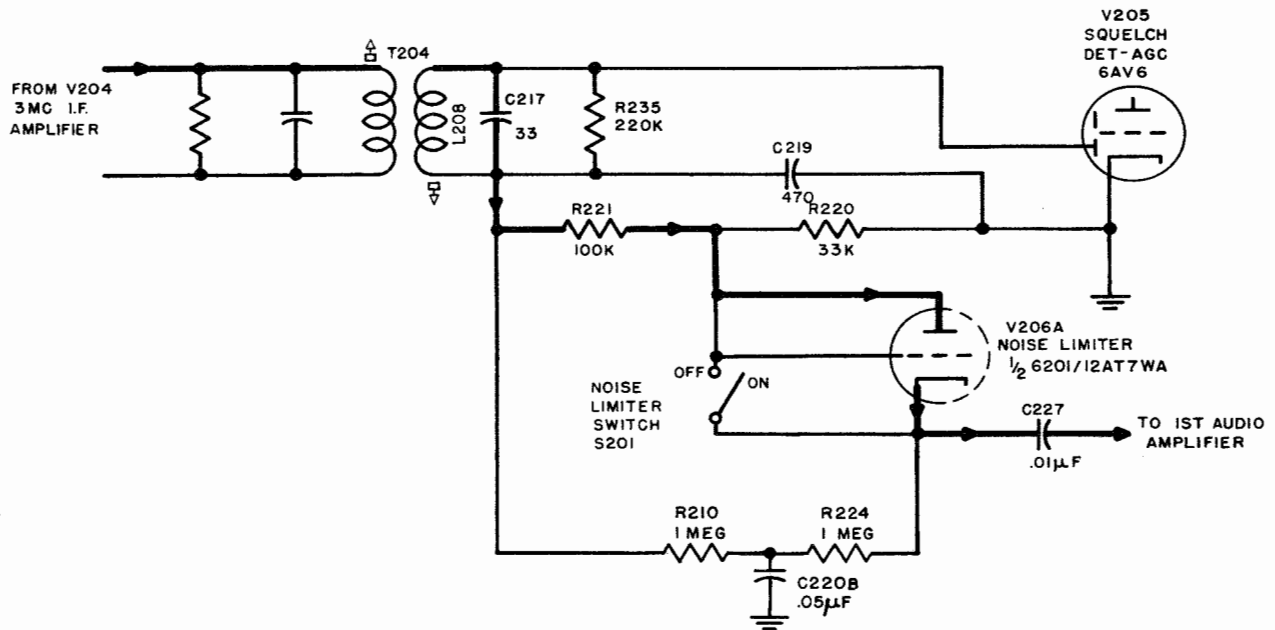

Figure 2-8. Simplified Schematic, Detector and Noise Limiter
(2) DETECTOR-NOISE LIMITER.—As indicated in the simplified schematic of figure 2-8, one diode section of a type 6AV6 tube (V205) is used as a detector, and one half of a double-triode type 6201/12AT7WA tube (V206) functions as a noise limiter. The detector circuit is conventional. IF transformer T204 couples the signal to the detector. Resistors R220 and R221 constitute the diode load, which is by-passed for RF by C219. The audio frequency output, obtained at the junction of R220 and R221 is coupled through capacitor C227 to the grid of AF amplifier V206, when the noise limiter switch (S201) is in the OFF position.